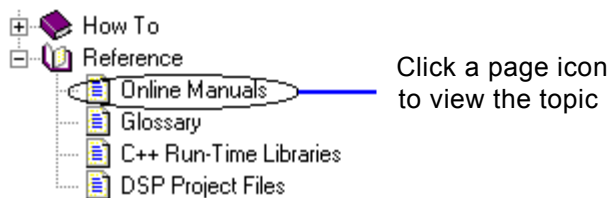

Figure 1-4. Contents Page – Online Manuals Topic
- A topic name on the Contents page (Figure 1-4)